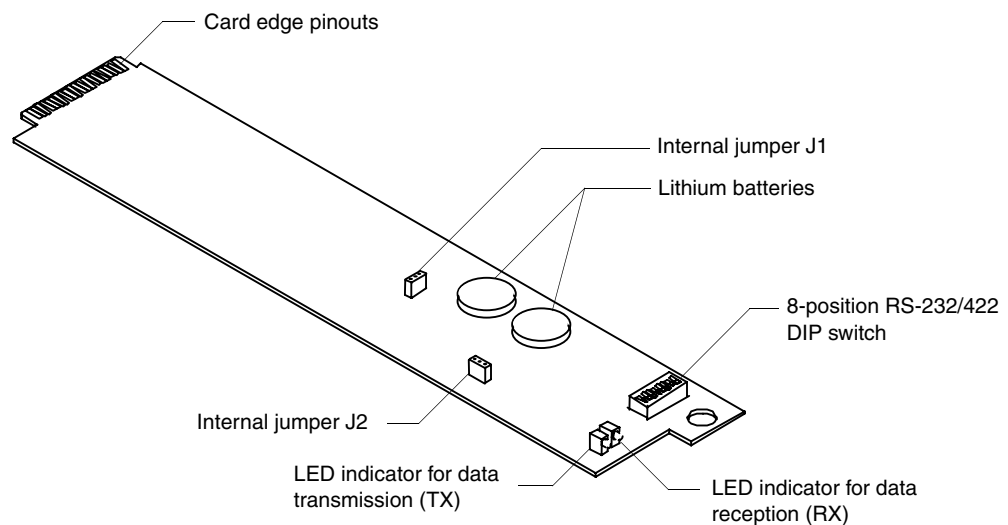

FIG. 1 AXC-232++
One AXC-232++ card (FIG. 1) is required for each RS-232/422/485 controlled piece of equipment. The AXC-232++ card has a DIP switch to set communications parameters (data bits, stop bits, parity, and baud rates from 300 to 115,200 bps).
The AXC-232++ can be used as an independent RS-232/422/485-controlled interface by setting the internal jumpers (JP1 and JP2). FIG. 1 indicates the location of the jumpers on the card.
3. Locate the JP1 jumper (see FIG. 1 on page 1).
3. Locate the JP2 jumper (see FIG. 1 on page 1).
Set the stop bits, data bits, parity, and baud rate on the RS-232/422 DIP switch (see FIG. 1). The AXC-232++ supports the following asynchronous data standards: